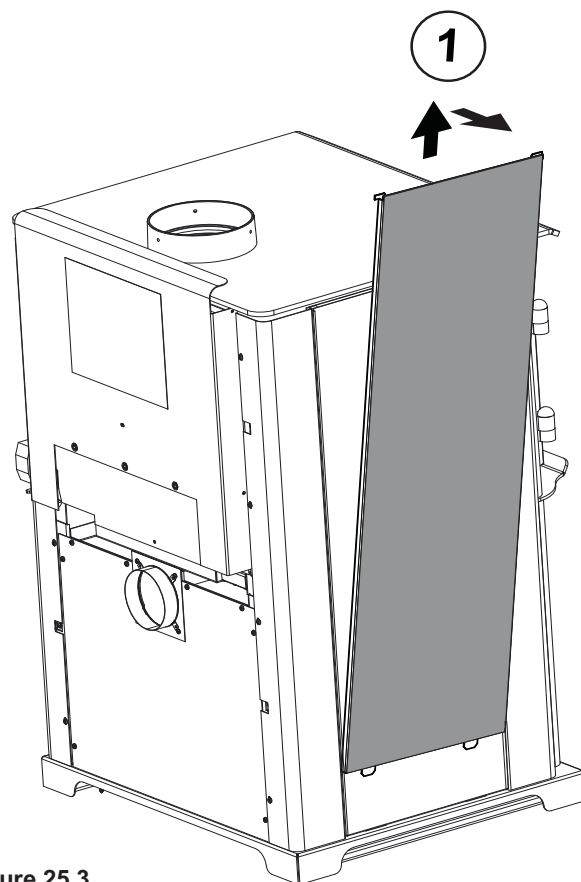

Figure 25.3
1. Remove solid panel from side by lifting up and pulling away from appliance (use a flat tool to pry from bottom if needed) (Figure 25.3).
2. Remove tile frame from side by lifting up and pulling away from appliance (Figure 25.3 reference solid side panel removal).